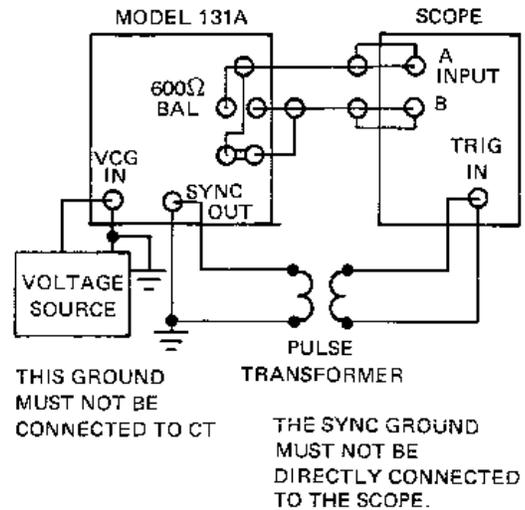

Figure 2-5. 600Ω Sync Out Connections
5. Connect external voltage source (dc programming or wideband ac signal) to VCG IN connector. When using the 600Ω OUTPUT the VCG IN BNC shell must not be connected to 600Ω CT or ground. See Figure 2-5.
When the 50Ω/600Ω selector is switched to 50Ω, all the BNC connector shells are connected to the signal common. When it is switched to 600Ω, it is advised to restrict the BNC connector shells from connecting to any of the four binding posts of 600Ω BAL. OUT, since the BNC shells are connected to one of the balanced signal outputs. See Figure 2-5.
An error in signal common connection will not damage the instrument. See Figure 2-5.